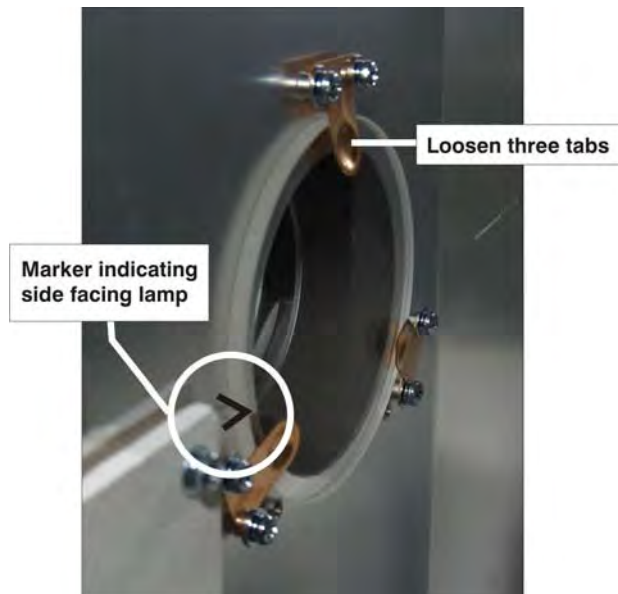

Figure 5-54 UV Filter
3. Loosen the remaining three, #2 Phillips™ screws from the tabs and swing them away. Remove UV filter (**Figure 5-54**).